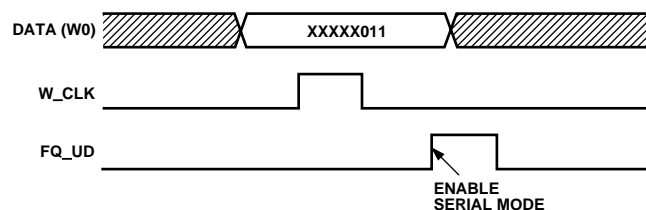
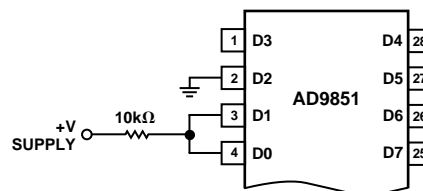
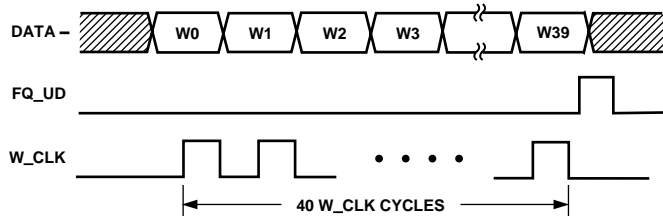

Figure 17. Serial-Load Enable Sequence
Figure 18. Hardwired xxxxx011 Configuration for Serial-Load Enable Word W0 in Figure 17
Figure 19. Serial-Load Frequency/Phase Update Sequence
In serial load mode, forty subsequent rising edges of W_CLK will shift and load the 1-bit data on Pin 25 (D7) through the 40-bit register in “shift-register” fashion. Any further W_CLK rising edges after the register is full will shift data out causing data that is left in the register to be out-of-sequence and corrupted. The serial mode must be entered from the default parallel mode, see Figure 17. Data is loaded beginning with W0 and ending with W39. One note of caution: the 8-bit parallel word (W0)—xxxxx011—that invokes the serial mode should be overwritten with a valid 40-bit serial word immediately after entering the serial mode to prevent unintended engaging of the $6\times$ REFCLK Multiplier or entry into the factory test mode. Exit from serial mode to parallel mode is only possible using the RESET command.
*This bit is always Logic 0 unless invoking the serial mode (see Figure 17). After serial mode is entered, this data bit must be set back to Logic 0 for proper operation.
Entry to the serial mode, Figure 17, is via the parallel mode which is selected by default after a RESET is asserted. One needs only to program the first eight bits (word W0) with the sequence xxxxx011 as shown in Figure 17 to change from parallel to serial mode. The W0 programming word may be sent over the 8-bit data bus or hardwired as shown in Figure 18. After serial mode is achieved, the user must follow the programming sequence of Figure 19.
Note: After serial mode is invoked, it is best to immediately write a valid 40-bit serial word (see Figure 19), even if it is all zeros, followed by a FQ_UD rising edge to flush the “residual” data left in the DDS core. A valid 40-bit serial word is any word where W33 is Logic 0.